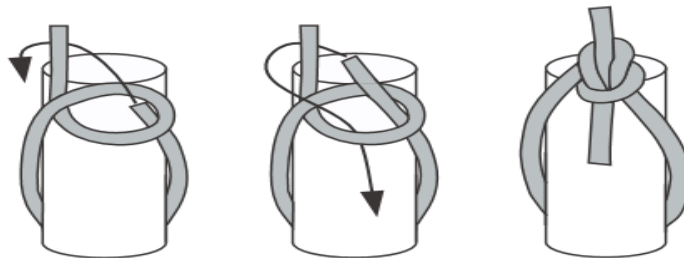

Figure 2-22. Bowline Knot.
c. Bowline. A bowline creates a loop at the end of a rope that can be used to secure the end of the rope around an object or anchor point. The pigtail must be inside and secured with an overhand knot. Pigtails will be a minimum of 4 inches. Rope loop size will be approximately 1 to 12 inches in diameter (see fig. 2-22).